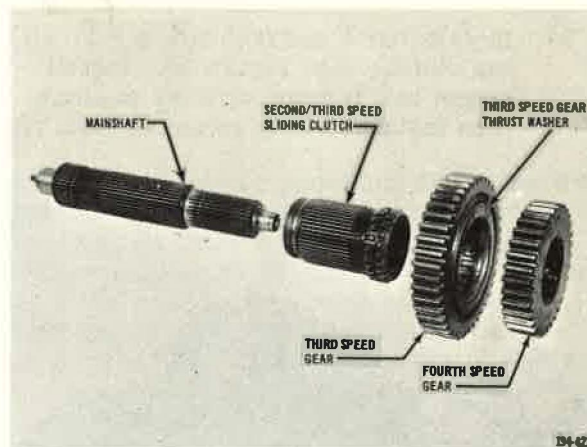

Figure 44. Exploded View of Front Mainshaft Assembly
8. Install second and third speed sliding clutch, third speed gear with thrust washer and fourth speed gear on front mainshaft as shown in Figure 44.